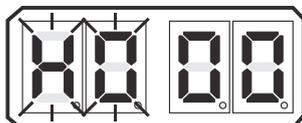

Figure 10-3: Display Function Blinking
- Depress and hold the Left and Right Push Buttons simultaneously until the H0 begins to blink. (Figure 10-3: Display Function Blinking) Release the Push Buttons; the applied battery voltage will now be displayed: